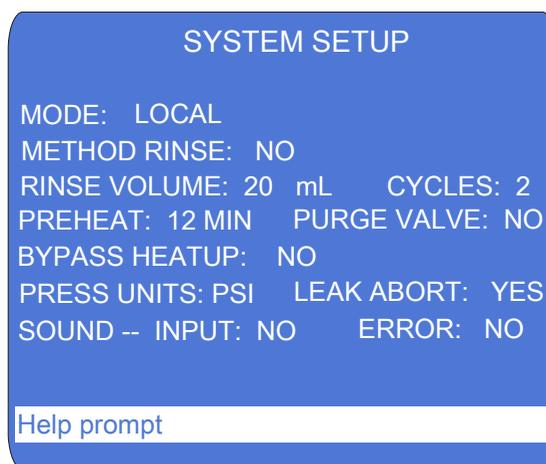

Figure B-12. System Setup Screen
4. Press the **Menu** button on the control panel keypad to display the **MAIN MENU OF SCREENS** and press **5** to display the **SYSTEM SETUP** screen (see Figure B-12).